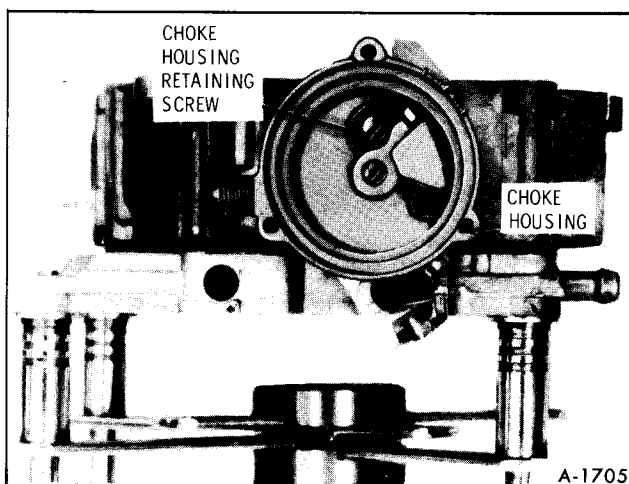

Figure 19—Choke Housing Attachment
2. Remove choke housing assembly from float bowl by removing retaining screw and washer inside the choke housing (figure 19). The complete choke assembly can be removed from the float bowl by sliding outward. Remove plastic tube seal from choke housing. Remove lower choke lever from inside float bowl cavity by inverting bowl.